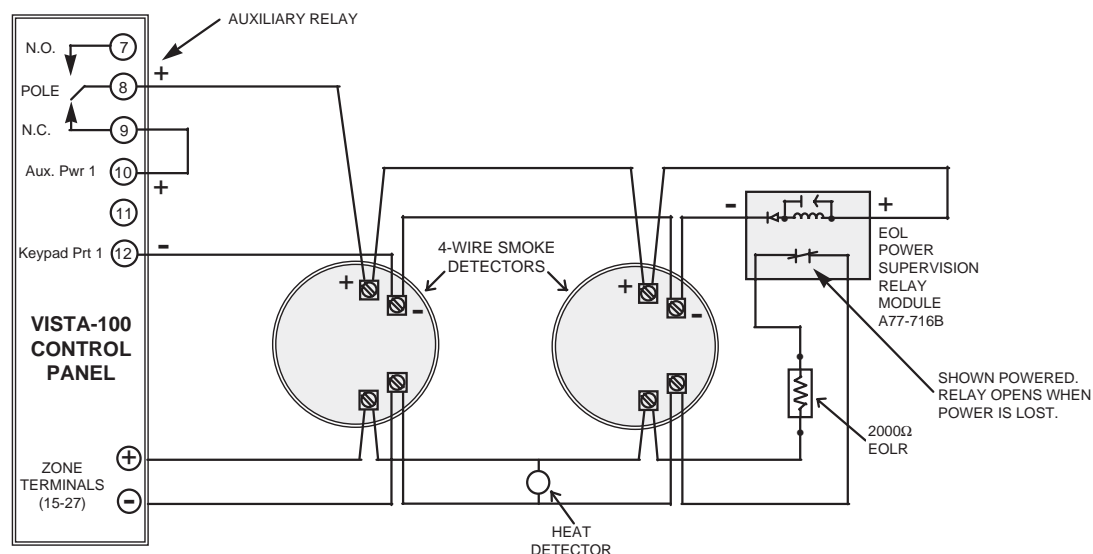

Figure 6-2. 4-Wire Smoke Detector Connections (Zones 1-8)
1. Connect 12-volt power for the detectors as follows: Wire the [+] side of Auxiliary Power (Terminal 10) to the N.C. contact of the Aux. Relay (Terminal 9). Wire the pole of the Aux. Relay (Terminal 8) to the [+] Power side of the smoke detector. Connect the [-] side of the smoke detector to [-] Aux. Power (Terminal 12). Observe proper polarity when connecting detectors (see *Figure 6.2*).
Power to 4-wire smoke detectors must be supervised with an EOL device (use a System Sensor A77-716B EOL relay module, connected as shown in *Figure 6.2*).